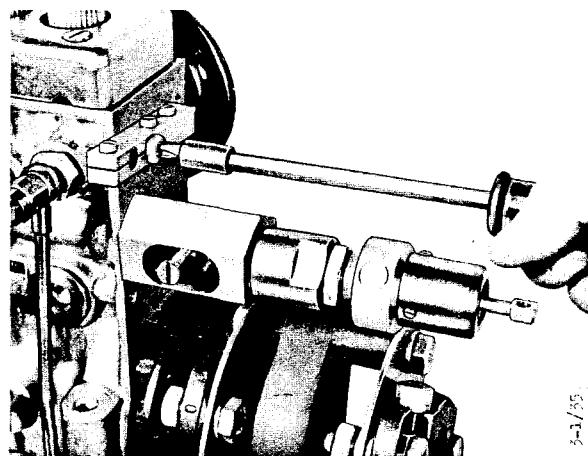

Fig.5
5. Fit the dial indicator holder 11, fig. 5.